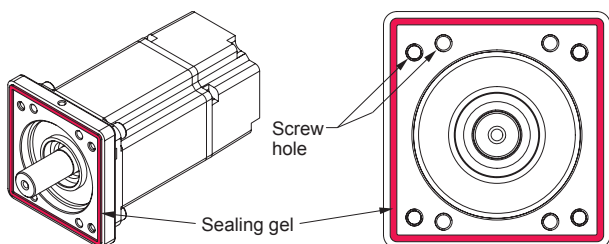

Figure 31: Sealing gel applied on the tensioning plate 6.
- Apply the sealing gel **26** to the cleaned tensioning plate **6** as it is presented on the Figure 31 (the gel must be applied continuously in a closed loop so the screw holes are inside the applied gel; it should be noted that surface shape may vary depending on the motor side drive size and type).